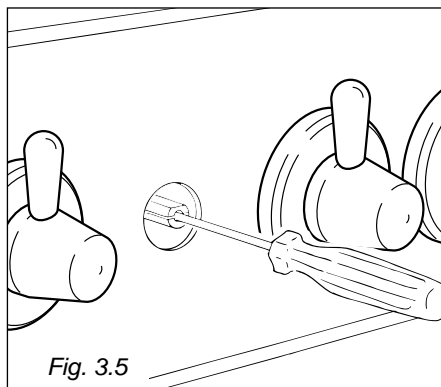

Fig. 3.5
- With a small flat screwdriver turn the screw inside the tap rod to the correct regulation (fig. 3.5).